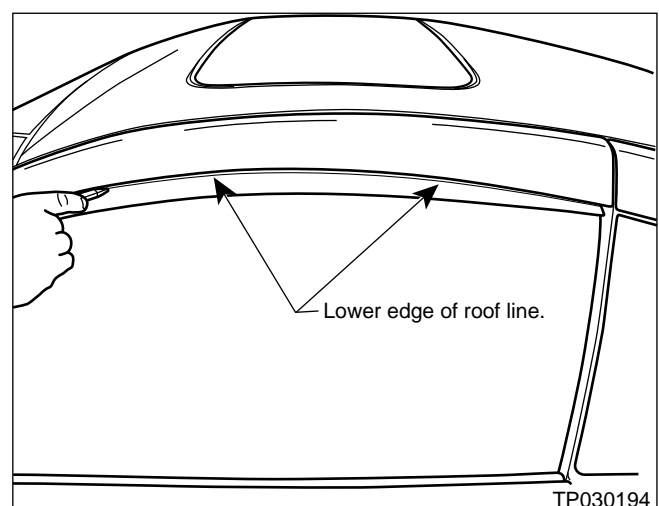

Figure 3
- c. Using the lower edge of the roof line as a guide: Mark the window position with a pen (see Figure 3).
- Use the location marked in step c, Figure 3, to adjust the window to its original position, then tighten it in place.